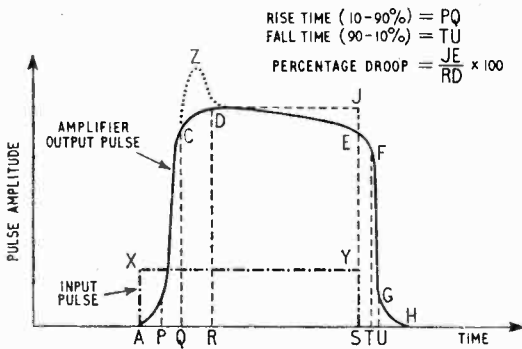

Fig. 23. Pulse response characteristics.
**Pulse Characteristics:**—As noted earlier, one way of specifying the small-signal performance of a linear pulse amplifier is in terms of pulse properties such as rise and fall times. Fig. 23 illustrates the terms used for a typical pulse waveform. AXYS represents the input pulse, and ABCDEFGH the amplified output pulse. The *pulse gain* is the ratio of RD, the output pulse peak amplitude, to AX, the input amplitude. The *rise time*,  $T_R$ , is the distance PQ along the time axis where PB represents 10% and QC 90% of the peak amplitude, RD, i.e. the time for the output pulse to rise from 10% to